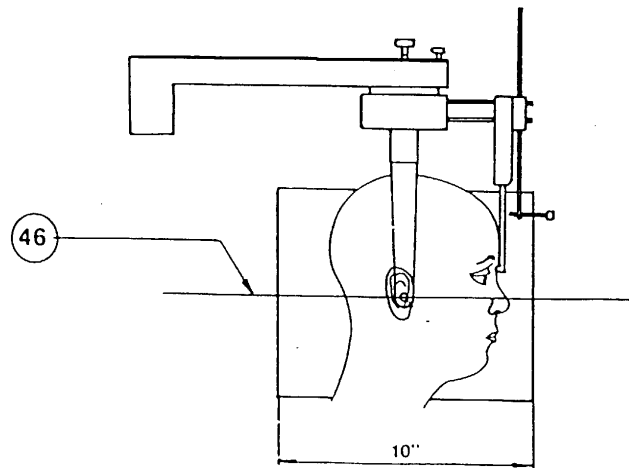

Figure 7
8. Exclude alignment rod **55** by rotating it outwards and bring up the nose rest unit **53**, at the same time adjusting rod **57** until contact with the front-to-nasal (Figure 7).